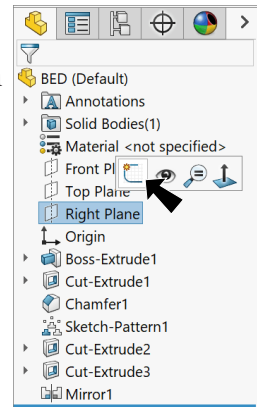

Fig. 43
Step 1. Click **Right Plane**  in the Feature Manager and click **Sketch**  on the context toolbar, **Fig. 43**.